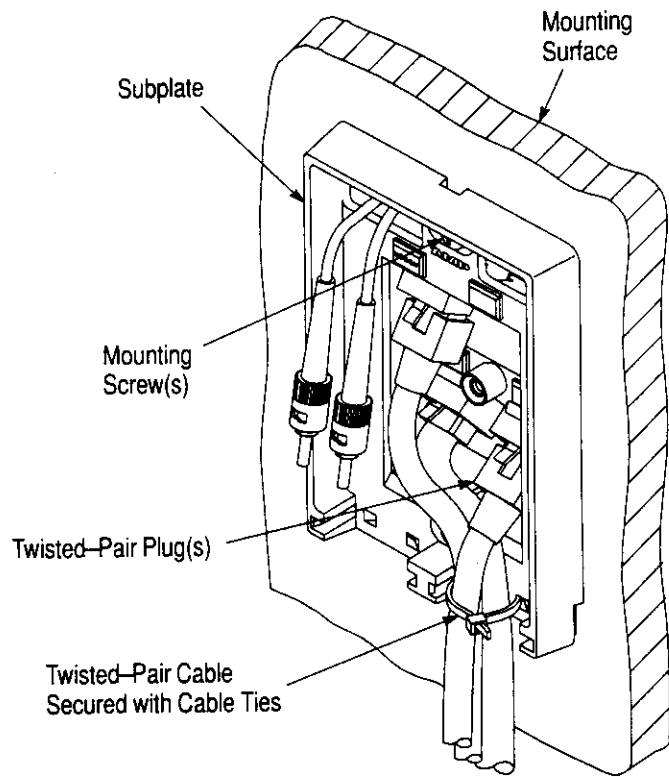

Figure 4
6. Position the subplate over the opening in the mounting surface and secure the subplate with the mounting screws. See Figure 4.
7. Join office-side twisted pair plugs to their respective outlet connections. Route the cables through the unused duplex fiber optic receptacle port. Secure cables with cable ties using the cable tie holes in the subplate as shown in Figure 4.